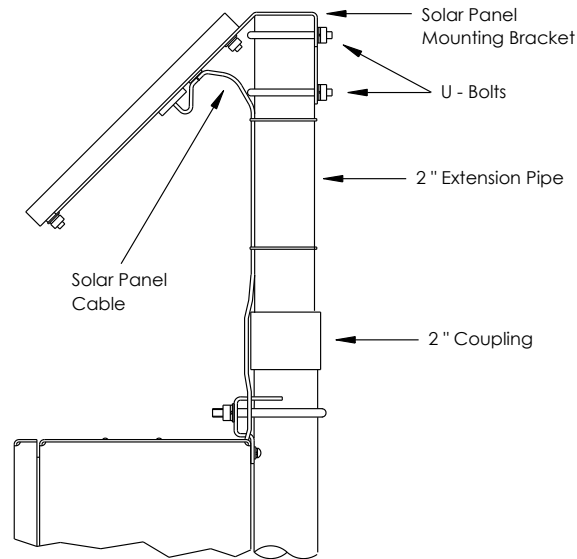

Figure 35: Typical solar panel installation
1. Attach 2" pipe coupling to the top end of the XRCG4 40" mounting pipe (Figure 35). Securely tighten.